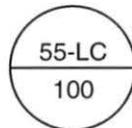

Figure 75. Instrument Tag
1. Identify the loop and area the device is in using the instrument tag in figure 75.